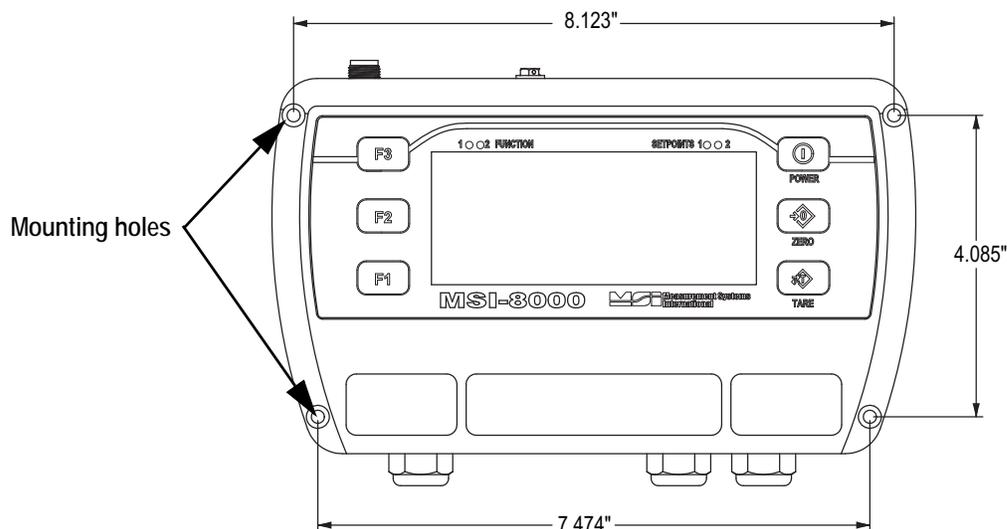

Figure 3-5. Mounting Hole Dimensions
2. Mark the hole location. This can also be done by measuring according to the dimensions in Figure 3-5.